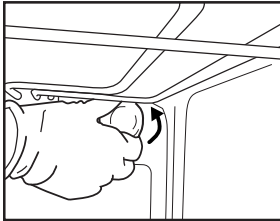

Fig. 7
2. Unscrew the lamp cover (Fig. 7), replace the lamp (see note for lamp type) and screw the lamp cover back on.